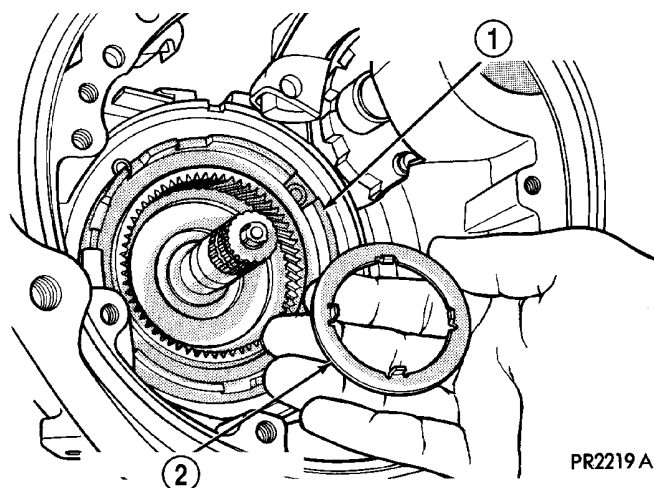

Fig. 40 No. 10 Thrust Washer
(40) Remove #10 thrust washer (Fig. 40).